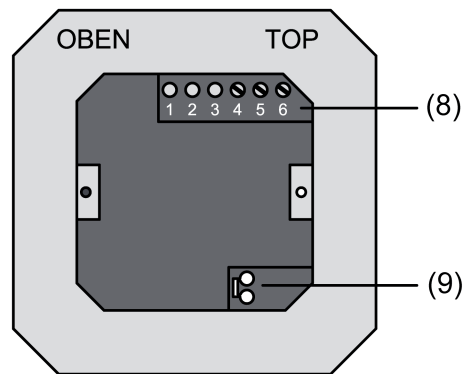

Figure 3: Device connection terminal insert with connections
- (8) Connecting strip binary inputs
- (9) KNX connection
- Insert the stripped bus line into the device connection terminal (9) in the device connection terminal insert (Figure 3)